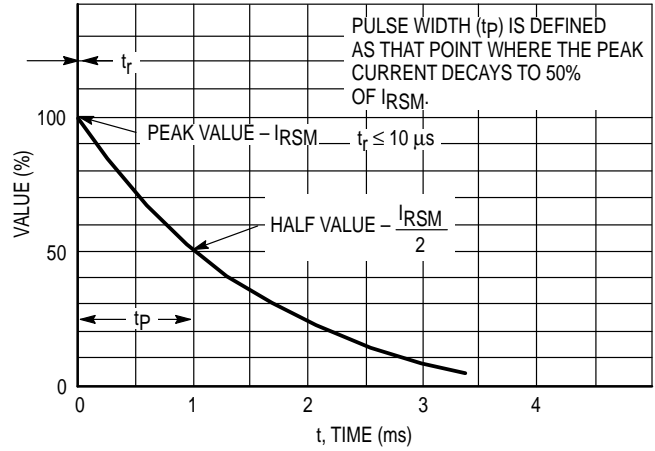
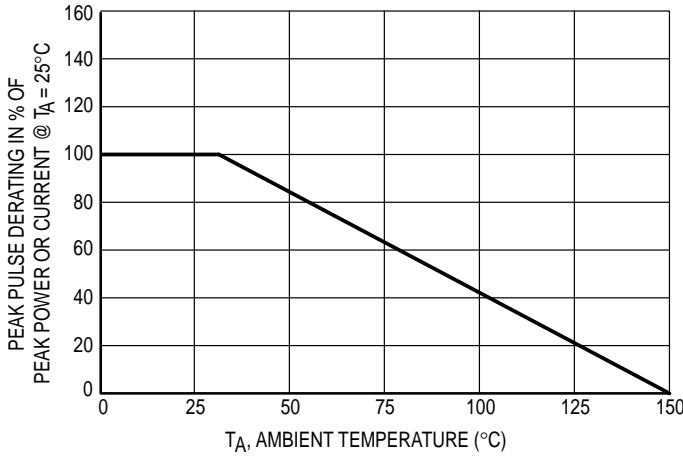

Figure 2. Pulse Waveform
Figure 3. Pulse Derating Curve
† Surge current waveform per Figure 2 and derate per Figure 3 of the General Data — 600 Watt at the beginning of this group.
NOTES: 1. Nonrepetitive current pulse per Figure 2 and derated above  $T_A = 25^\circ\text{C}$  per Figure 3.
† Surge current waveform per Figure 2 and derate per Figure 3 of the General Data — 1500 Watt at the beginning of this group.
**Ipp** Peak Pulse Current — See Figure 2